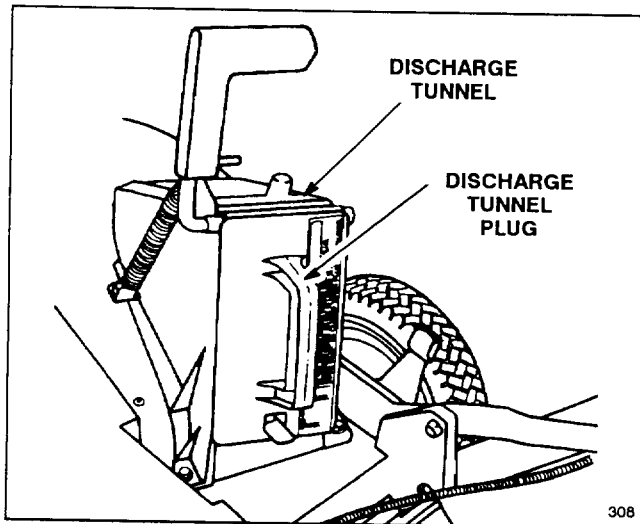

Figure 28
1. **Rear Bagging Kit (Model 59174 for self-propelled models, Model 59179 for hand push models)**—Install discharge tunnel and rear mounting grass bag to convert Recycler® II mower to a rear bagging mower (Fig. 28). Includes discharge tunnel plug.